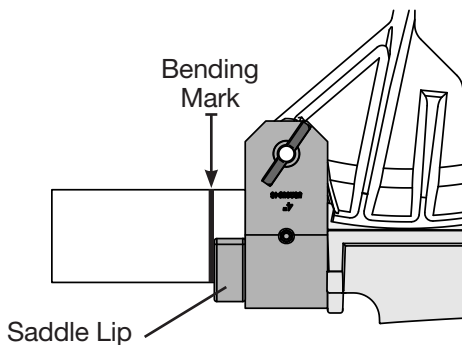

Figure 19
5. Insert conduit between saddle and shoe. Line up the appropriate bending mark with the saddle lip, and make sure the follow bar is touching the back of the saddle. (Fig.19)